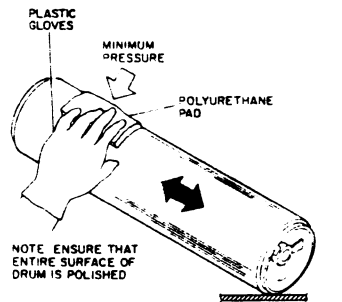

Figure 1. Cleaning the Drum 60-RAVN-149
4. GENTLY REMOVE "TONER" AND DEVELOPER FROM SURFACE OF DRUM USING A POLYURETHANE PAD THAT CONTAINS NO MOISTURE (FIGURE 1).